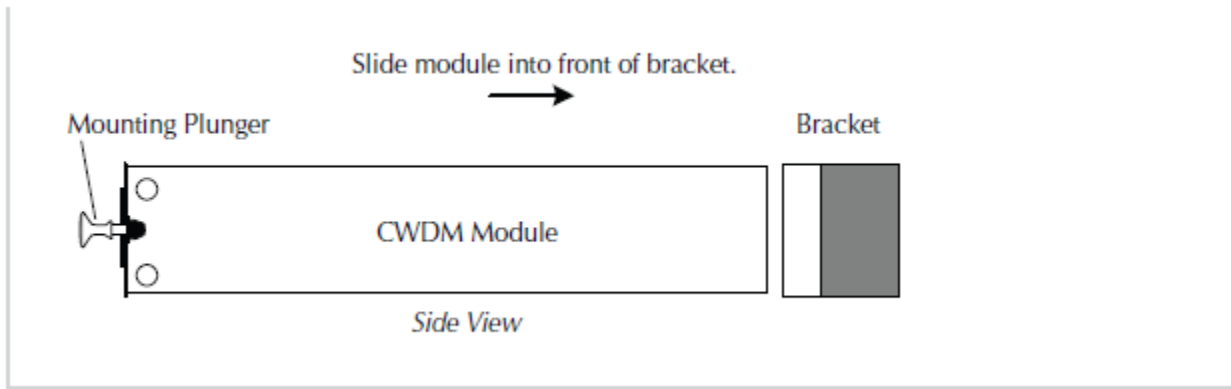

Figure 5: Slide CWDM Module into Front of Bracket
3. Pull the CWDM mounting plungers fully out, as shown in Figure 5.
4. Slide the CWDM module into one of the slots, as shown in Figure 5.